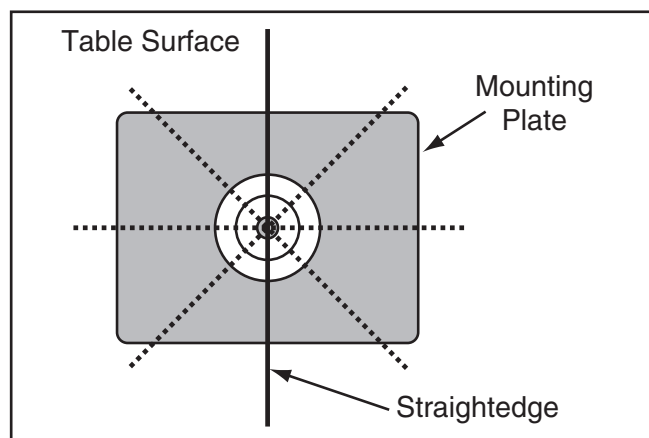

Figure 63. Pattern for aligning mounting plate to table.
3. Remove (2) M4-.7 x 16 cap screws that secure mounting plate to table.
4. Lay straightedge across mounting plate, plate insert, and table surfaces in pattern shown in **Figure 63**.